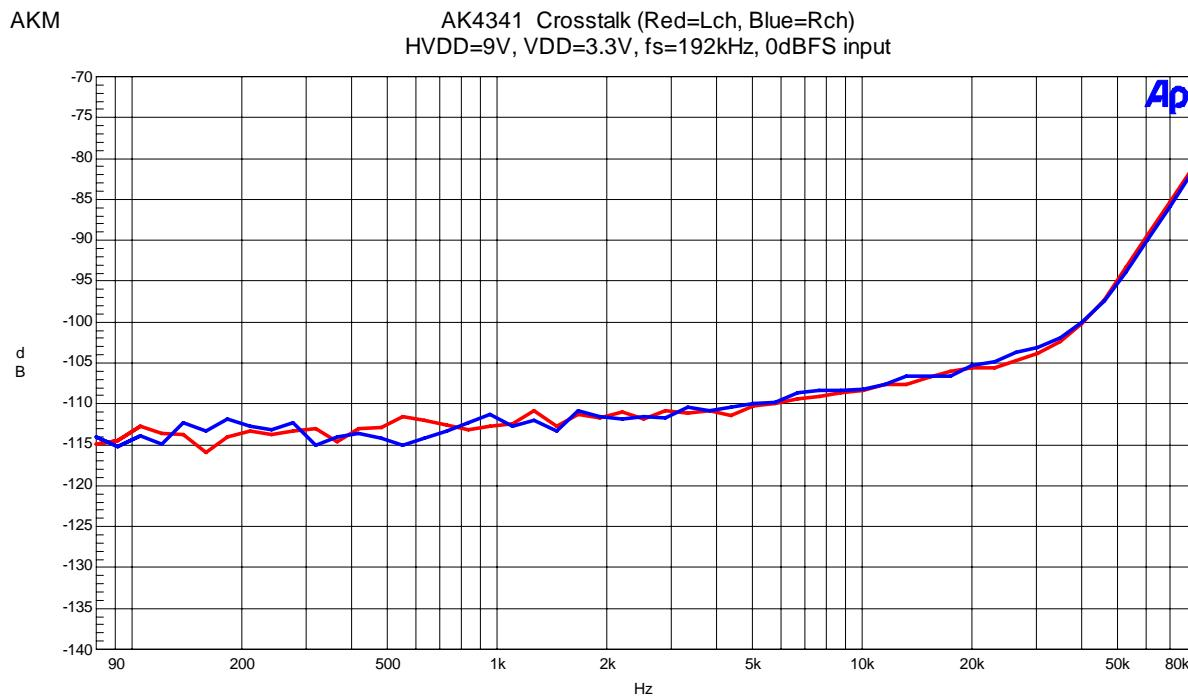

Figure 36. Cross-talk (Input Level=0dBFS)
- Figure 36. Cross-talk (Input Level=0dBFS)